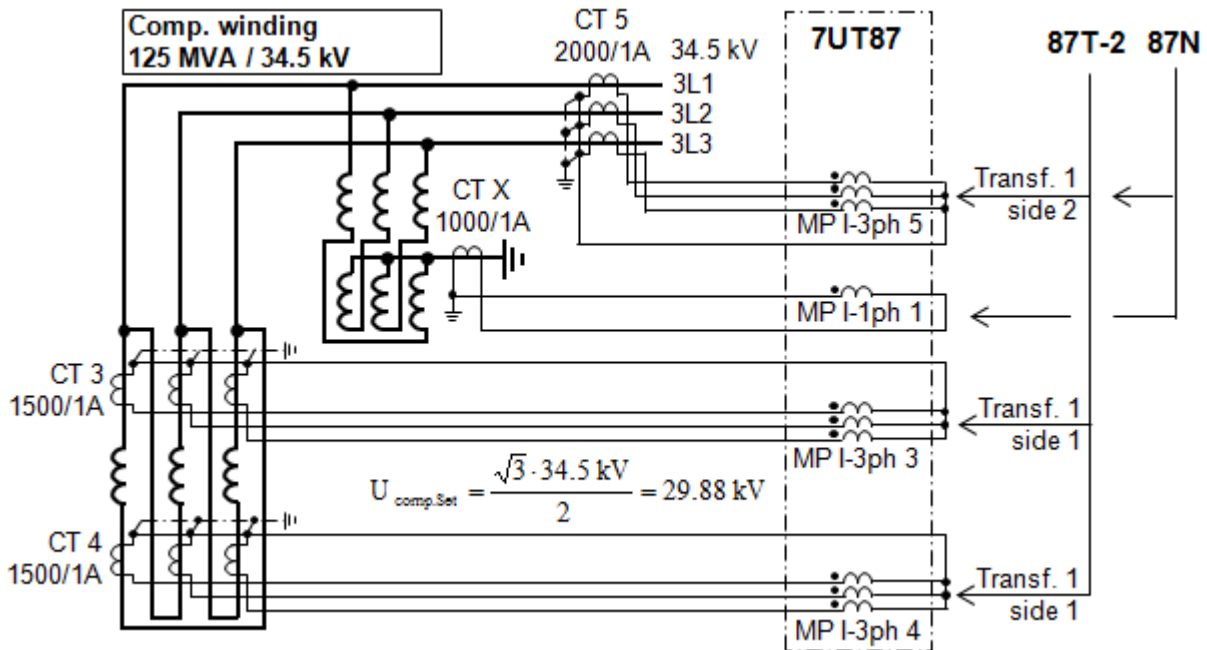

Figure 2: Differential protection for the compensation side (87T-2)
- Differential-protection for the compensation side 87T-2 (Figure 2)